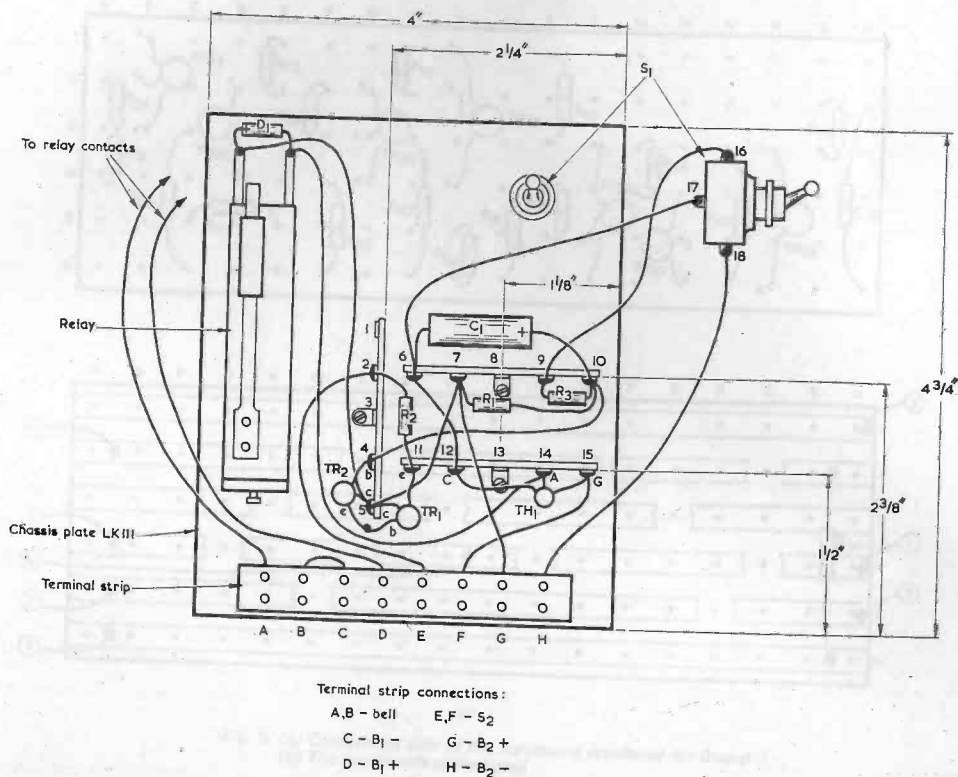
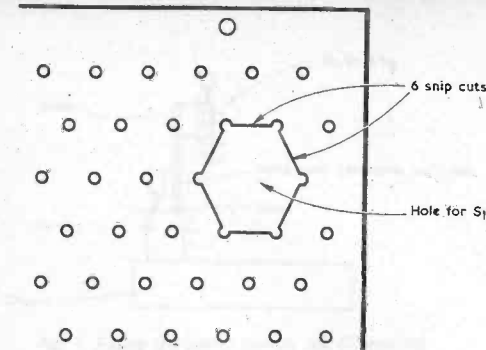
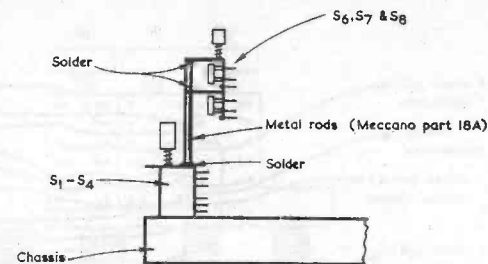

Fig. 5. Wiring and component layout of the prototype unit
Fig. 6. A simple means of providing a mounting hole for switch S1
Fig. 7. Fitting the added switch, S6, S7 and S8
A layout and wiring diagram is given in Fig. 5, and assembly is described in the following step-by-step instructions. Note that no joint should be soldered unless expressly stated; this prevents soldering twice at any junction. Where convenient, insulated wires may pass under tagstrips in the interest of neatness. The tags in Fig. 5 are given numbers for reference purposes.
in Fig. 6, with the aid of a pair of side-cutters or snips. Any rough edges resulting can be smoothed off with a file. Mount S1. (This is shown in two positions in Fig. 5 for purposes of illustration.)
2. Using 6BA bolts and nuts, mount the three tagstrips in the approximate positions indicated in Fig. 5. Precise positioning is not important.
4. Mount the relay. The manner in which this is fitted depends upon the relay employed. Fig. 5 assumes a P.O. 3000 relay.
The new board is positioned above relay RLB, its socket being secured to the bracket which retains the relay in position. See Fig. 6. If a socket is not used, a
Fig. 6. Mounting S5 in its new position. Also shown is the socket for Board 3 employed in the prototype. Alternative sockets may have a different appearance and require other methods of mounting
Next, S5, the paralyse switch, which was originally mounted at the side of the push button unit S1-S4, should be moved to the back of the robot and mounted on the relay bracket along with the new board as in Fig. 6. Then the new push-button unit can be mounted. In the author's case, the switch was mounted by soldering two rods on top of the existing switch, and soldering the new switch to the rods, as in Fig. 7. However, there is plenty of room between the front of the robot and Board 2, and the new switch may be mounted there if preferred.